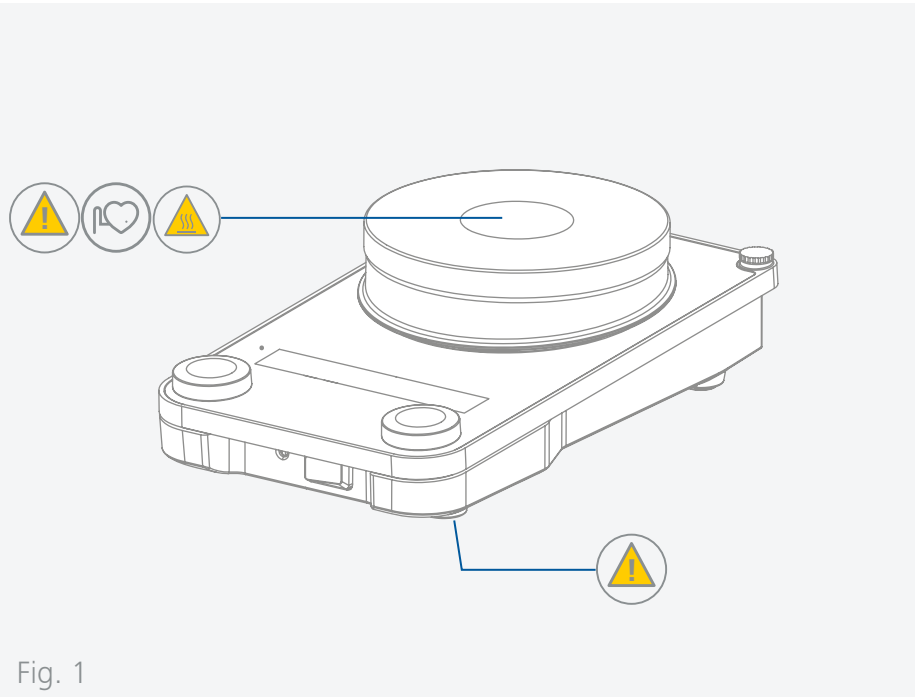

Fig. 1
- > Pay attention to the marked sites in **Fig. 1**.